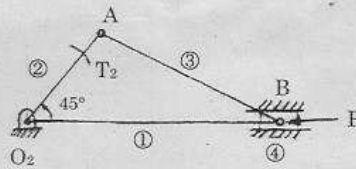

Fig Q. 14 (a)
14. (a) Figure Q.14 (a) shows a slider crank mechanism in which the resultant gas pressure $8 \times 10^4 \text{ N/m}^2$ acts on the piston of cross sectional area 0.1 m^2 . The system is kept in equilibrium as a result of the couple applied to the crank 2, through the shaft at O_2 . Determine forces acting on all the links (including the pins) and the couple on 2. $OA = 100 \text{ mm}$, $AB = 450 \text{ mm}$.